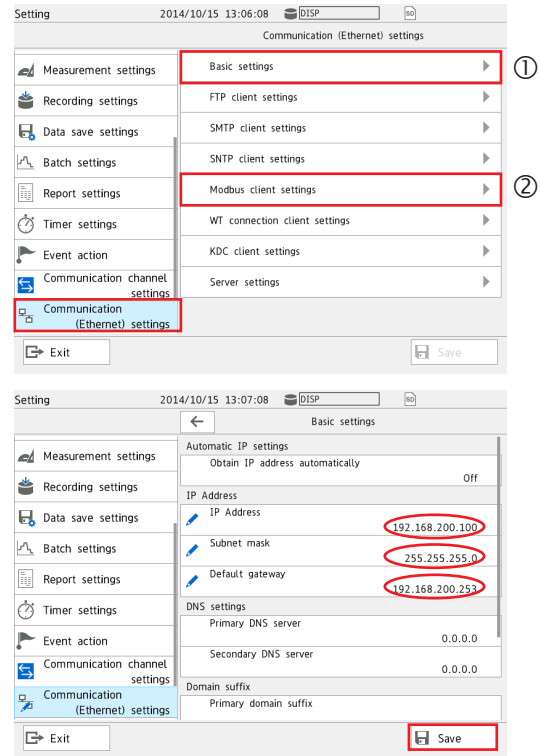
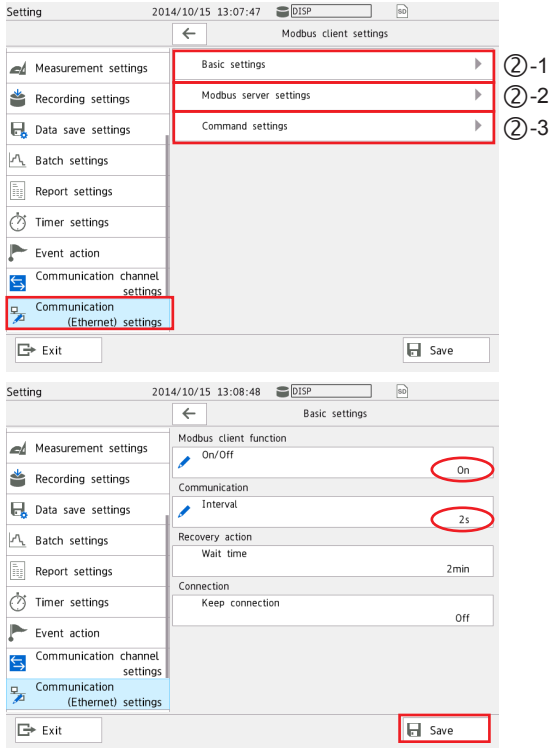
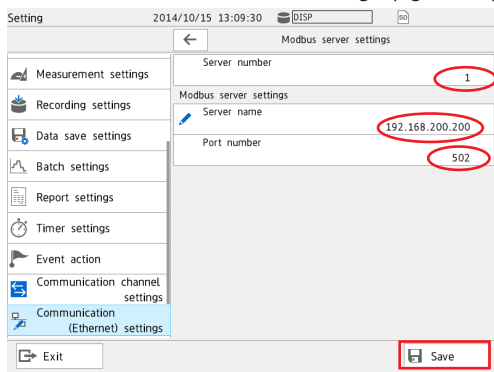
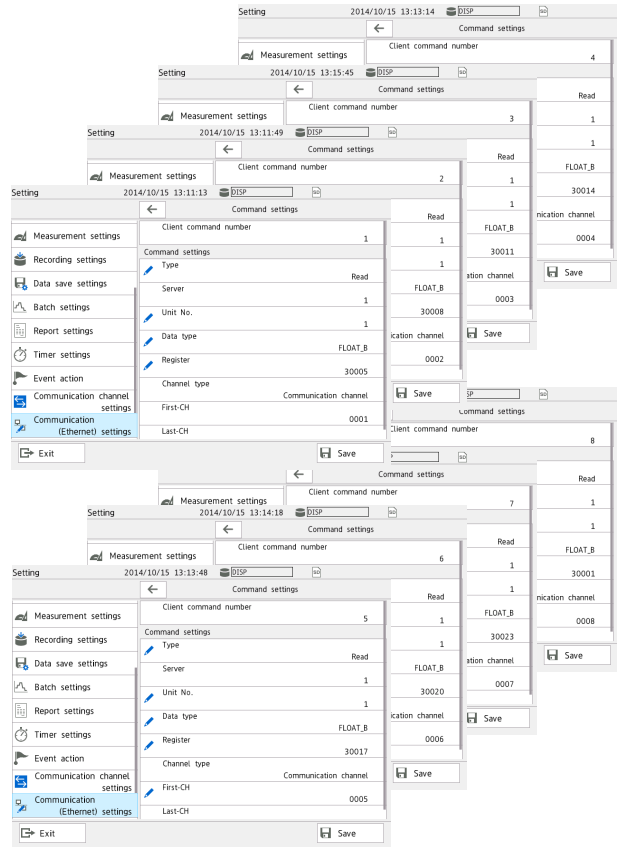

Figure30
Figure 31
Figure 32
Figure 33
Select Communication (Ethernet) settings and then Basic settings. Check the IP address, subnet mask, and default gateway (figure 30).
② Modbus client settings
Select Communication (Ethernet) settings, Modbus client settings (② in figure 30), and then Basic settings (②-1 in figure 31). Set Modbus client function to On and Communication Interval to 2s. Then, save the settings (figure 31).
Next, select Modbus server settings (②-2 in figure 31) under Modbus client settings. For the GX20W's built-in GW, set Server number to 1 (a unique number for each server), Server name to 192.168.200.200, and Port number to 502. Then save the settings (figure 32).
Next, select Command settings (②-3 in figure 31) under Modbus client settings. Assign the register contents of the GX20W's built-in GW to the communication channels (figure 33).